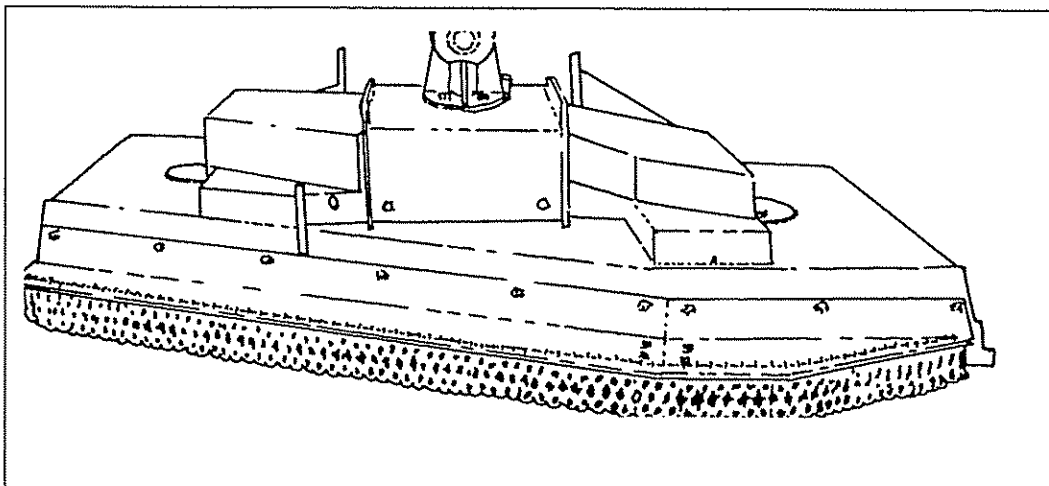

FIGURE 14
1. Attach the right and left chain guard assemblies to the mower with (9) - 1/2" x 1-1/4" bolts, (9) - 1/2" flatwashers and (9) - 1/2" locknuts as shown in **figure 14**.
2. Attach the right and left chain guard assemblies together with the rear chain guard tie bar using (4) - 1/2" x 1-1/4" bolts, (4) - 1/2" flatwashers and (4) - 1/2" locknuts as shown in **figure 14**.